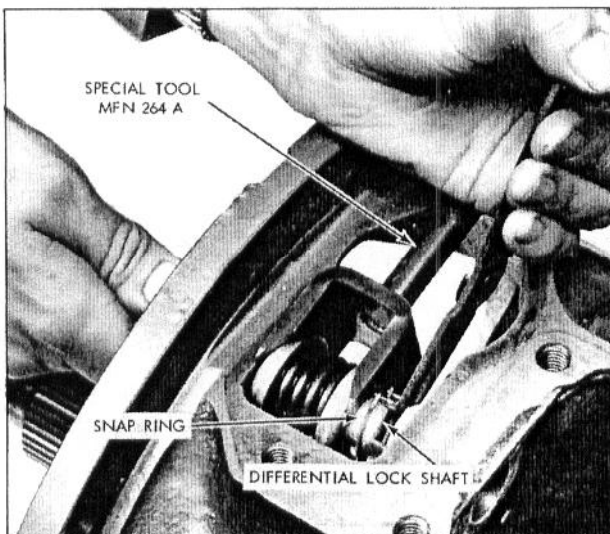

Fig. 21 - Differential Lock Shaft Removal or Installation
- e. Move the snap ring out of its groove and slide the differential lock shaft out as shown in Fig. 21. Be very careful not to dislodge the spring from the tool.
- c. Insert snap ring and continue sliding the shaft into position. Refer to Fig. 21.